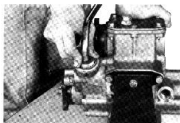

Fig. 9-6
8. Remove the transfer gear control lever assembly from the transfer gear front case in the following manner: Turn the gear control lever guide to the left while pushing it down as shown in the Fig. 9-6.